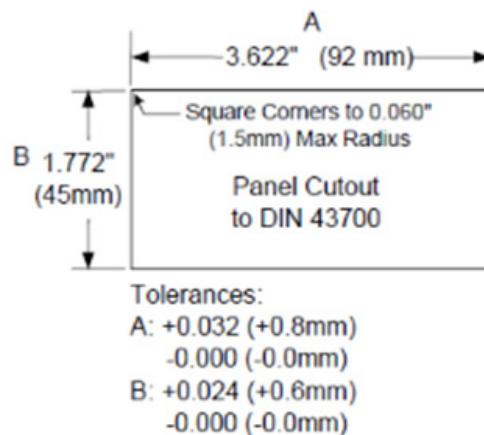

Figure 1. 1/8 DIN Panel Cutout Dimensions
- ♦ Prepare a standard 1/8 DIN panel cutout – 3.622" x 1.772" (92 mm x 45 mm). Refer to Figure 1 below, for more details.